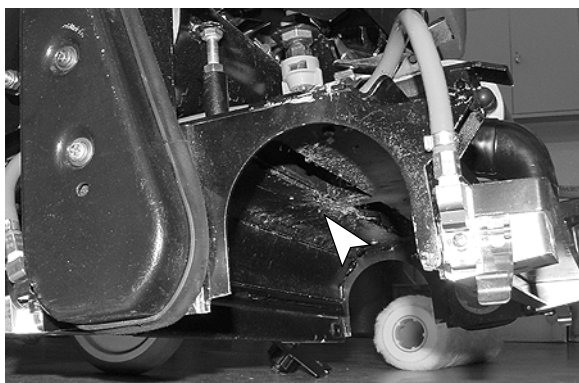

FIG. 33
2. Remove any debris build-up from the underside of the scrub head (Figure 33).